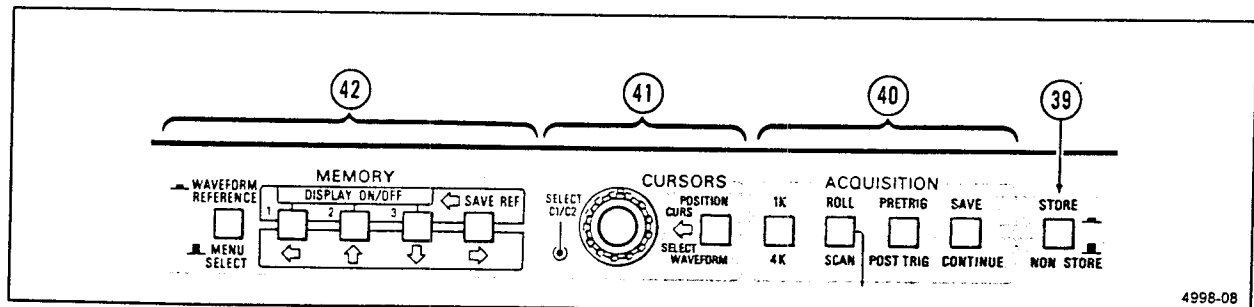

Figure 2-8. Storage controls.
See Figure 2-8 for the location of items 38 through 42.